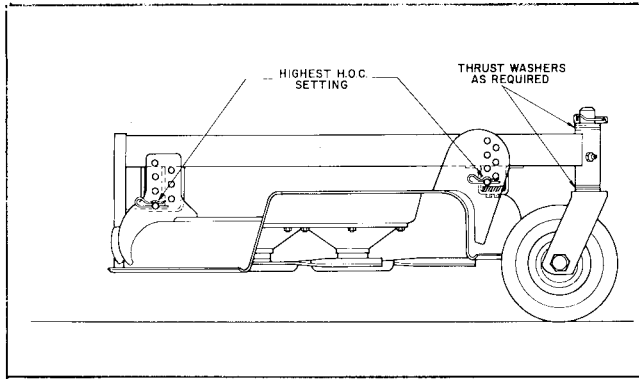

Figure 29
2. Check to make sure front height-of-cut pins are resting properly on frame cushions (Fig. 29). If pins are not resting properly, place a shim or shims under cushion to raise it for proper alignment.
3. Raise height-of-cut to 4 in. (102 mm) position (Fig. 29); refer to Adjusting Height-Of-Cut, page 9.
- A. Cutting units usually operated at 1 to 2 in. (25 to 51 mm) height-of-cut should have the low side of the cutting unit raised. Remove the lynch pin securing castor wheel on low end (Fig. 29) and remove castor assembly.
- B. Transfer one thrust washer from top side of castor shaft to lower side, install castor assembly and compare blade height of all blades; refer to items 3 through 6. Continue adding thrust washers if height still does not meet requirements.
- C. If cutting unit is operated at 2 to 4 in. (51 to 102 mm) height-of-cut, lower the high side of cutting unit. Remove lynch pin of castor at high end of unit and remove castor assembly (Fig. 29).
- D. Transfer one thrust washer from lower side of castor shaft to top side, install assembly and compare blade height of all blades; refer to items 3 through 6. Repeat procedure if height still does not meet requirements.